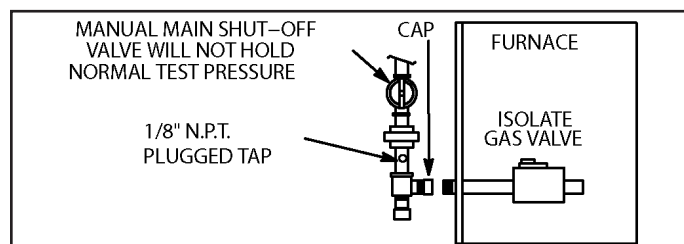

Figure 41.
5. A 1/8" N.P.T. plugged tap or pressure post is located on the gas valve to facilitate test gauge connection. See Figure 41.
When testing pressure of gas lines, gas valve must be disconnected and isolated. See Figure 41. Gas valves can be damaged if subjected to pressures greater than 1/2 psig (3.48 kPa).